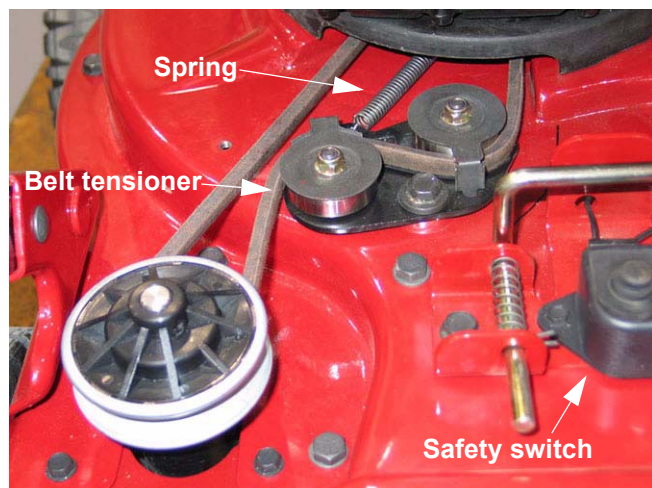

Figure 2.6
- 2.6. Watch the reaction of the two idler pulleys. If the bracket that they are mounted to does not pivot freely in response to the changes in belt tension created by the movement of the variable speed sheaves, the full range of speeds will not be available, and accelerated component wear will result. See Figure 2.6.